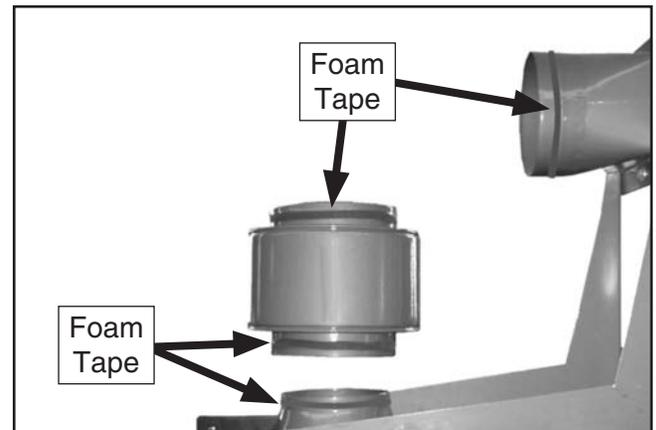

Figure 17. Foam tape applied to upper components.
21. Apply 3 x 15mm foam tape rolls to lips of outlet port, canister adapter, and both ends of muffler, as shown in **Figure 17**.